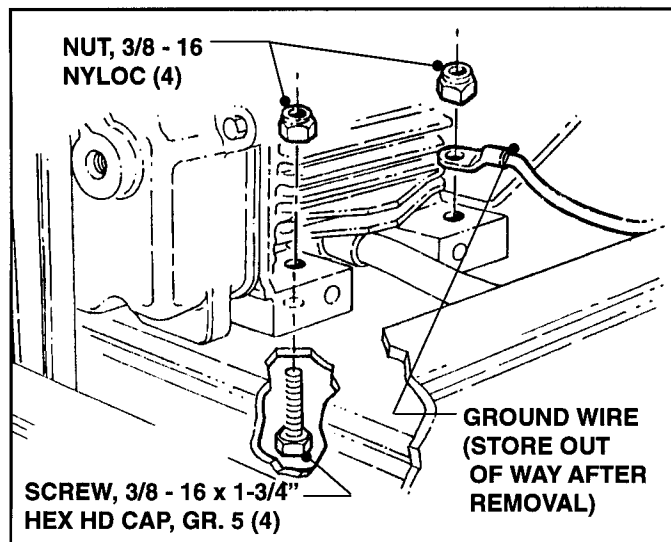

FIGURE 4.8
- K. Remove the four (4) Engine Mounting Nuts and Hex Hd. Capscrews. Store Ground Wire out of the way. See Figure 4.8.